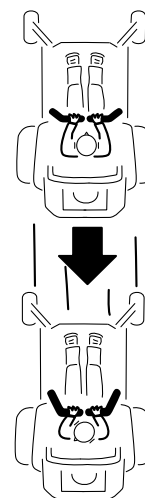

Figure 17
2. To go backward, slowly pull the motion control levers rearward (Figure 17).
To go straight, apply equal pressure to both motion control levers (Figure 17).